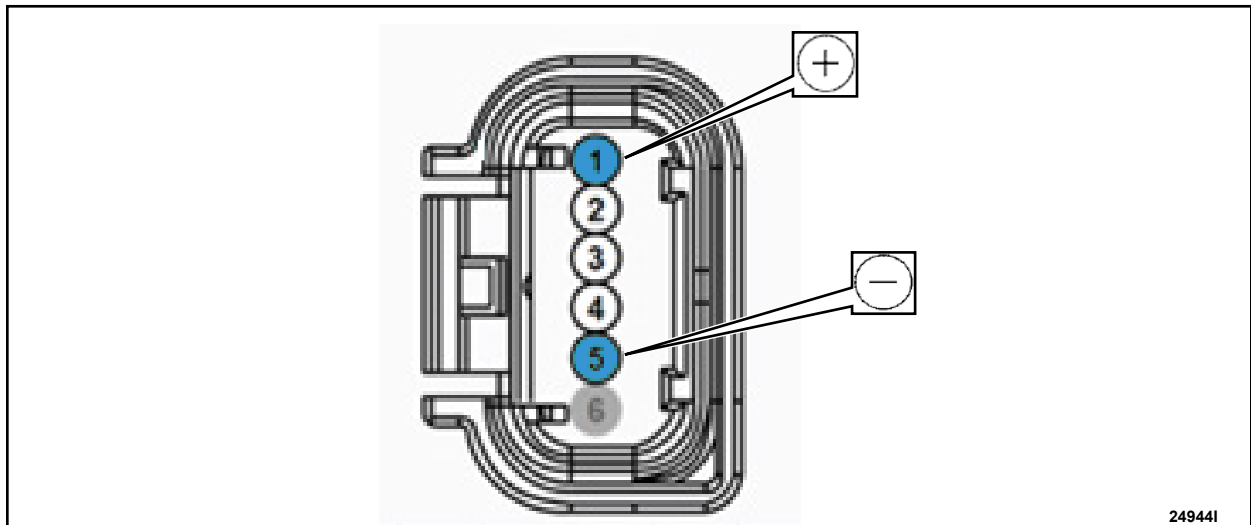

FIGURE 3
7. Check the ground to the rear parking aid camera / video camera connector. See Figure 3.